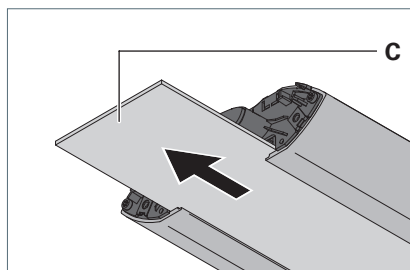

Fig. 18: Pulling out the cover.
- ▶ Pull the prism cover **C** or the parabolic grid out of the luminaire, see Fig. 18.